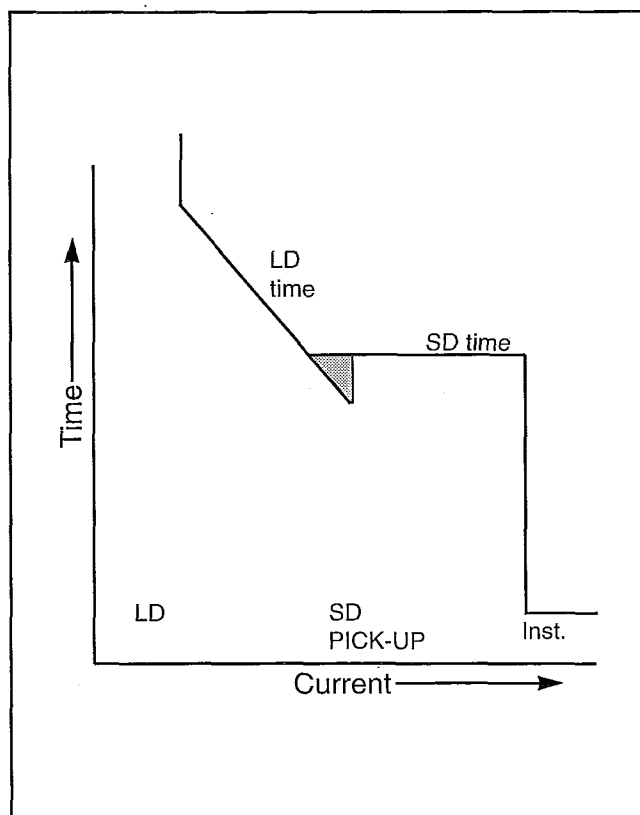

Figure 3-11 Typical LS Curve With I^2T Slope
Note that the scope of protection offered by the Digitrip MV Trip Unit is a coordinated effort. This is especially true when a number of protective functions, such as long time and short time protection are combined into one cooperative curve. *Figure 3-11* shows a typical time-current which has both long and short time protection, and an I^2T slope selected for the long delay time. Because of the pickup, time and slope selections made for this illustration, a triangle (shaded area on the illustration) is formed by the intersection of the different time and pickup lines. Internally, the Digitrip MV Trip Unit design looks at this particular curve as if the shaded triangular area does not exist. Therefore, in an actual performance situation, the phase short delay time function would take precedence over that portion of the phase long delay time line forming the one leg of the triangle. This does not create a problem from a protection or coordination standpoint. In fact, it is recommended on certain applica-
3) The internal design of the Digitrip MV Trip Unit is such that the Phase Short Delay Time setting might take precedence over the Phase Long Delay Time. This is graphically illustrated in *Figure 3-11*